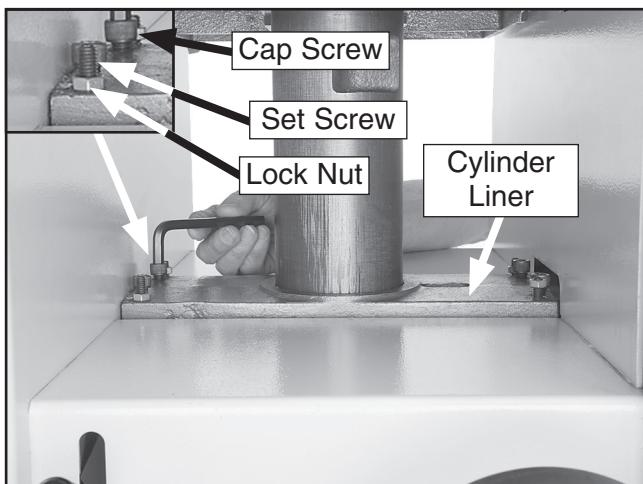

Figure 77. Adjusting table parallelism.
3. Loosen the four cap screws on the cylinder liner, as shown in **Figure 77**.